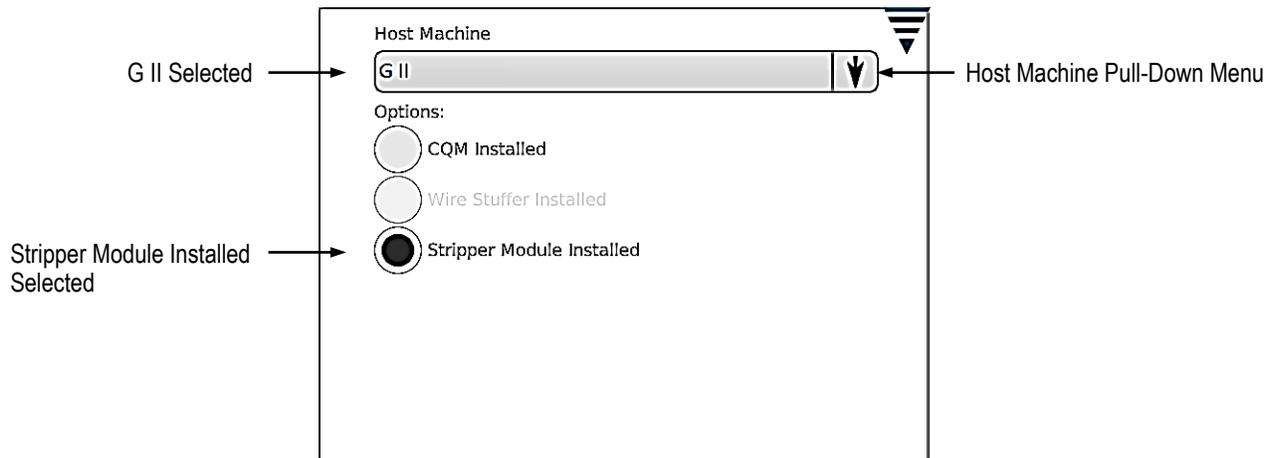

Figure 7
c. Select “G II” from the Host Machine pull-down menu as shown in Figure 7.
d. Select “Stripper Module Installed” from Options as shown in Figure 7.